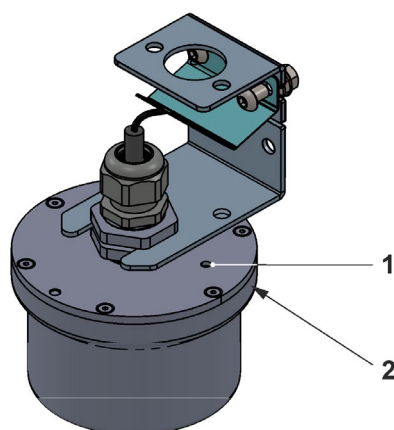

Fig. 27-1 LED on the top side of the NivuLink Radar
The status LED (Fig. 27-1 Pos. 1) (on the top side of the NivuLink Radar) lights up during **normal operation** according to a predefined system that allows conclusions to be drawn about the current status of the device. The cycle of the respective status message lasts approx. 1160 ms (1.16 s) and then starts again from the beginning if the status has not changed.
the status LED (Fig. 27-1 Pos. 1) on the side of the upper flange of the sensor (Fig. 27-1 Pos. 2).
1. Hold the ring magnet near the status LED (Fig. 27-1 Pos. 1) against the side of the upper flange of the sensor (Fig. 27-1 Pos. 2) until the second function **PK – RD** runs within the start sequence, then remove the ring magnet.
1. Hold the ring magnet near the status LED (Fig. 27-1 Pos. 1) against the side of the upper flange of the sensor (Fig. 27-1 Pos. 2) until the third function **PK – BU** runs within the start sequence, then remove the ring magnet.
1. Hold the ring magnet near the status LED (Fig. 27-1 Pos. 1) against the side of the upper flange of the sensor (Fig. 27-1 Pos. 2) until the fourth function **PK – GN** runs within the start sequence, then remove the ring magnet.